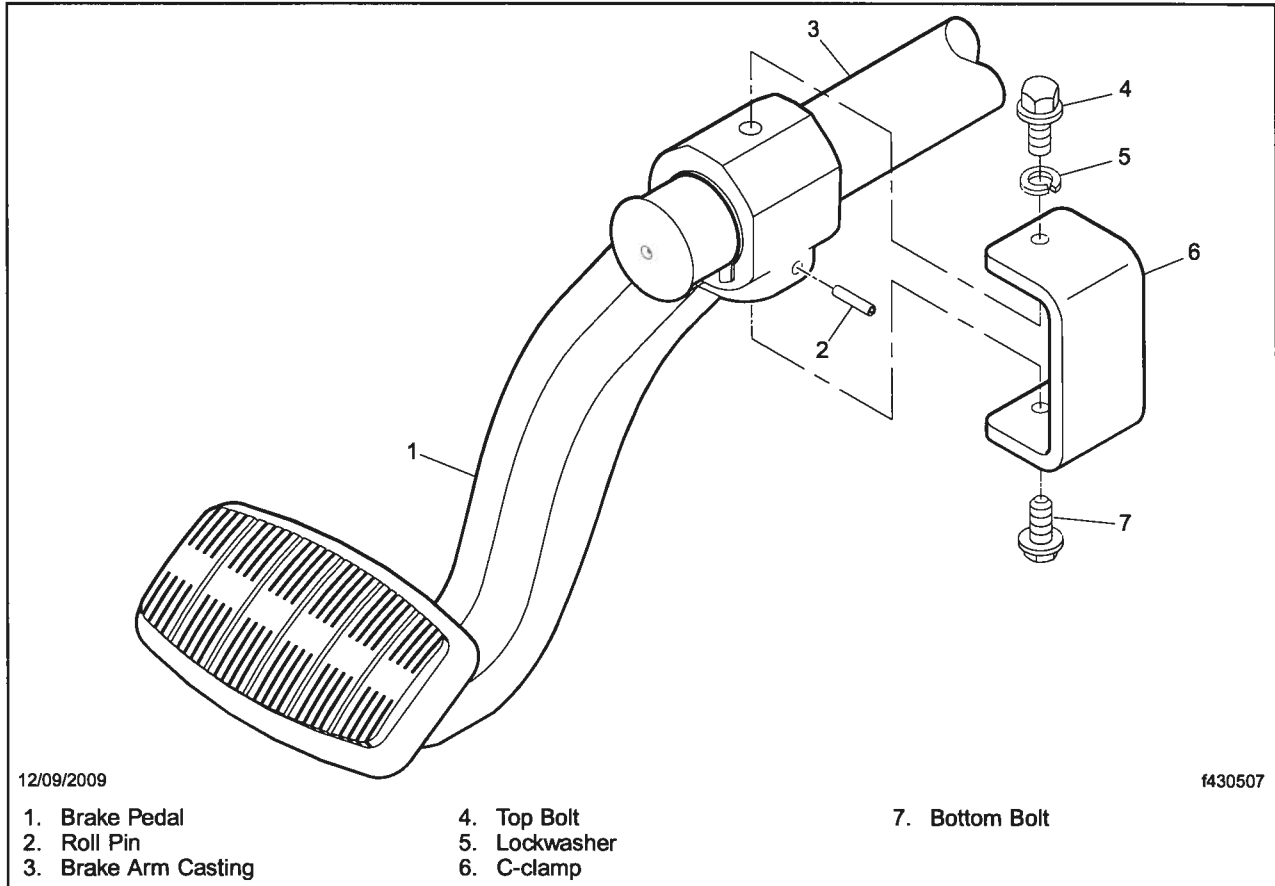

Fig. 1, Adjustable Brake Pedal Assembly
3. Check to see if a C-clamp or roll pin is installed on the adjustable brake pedal. See **Fig. 1**.
1. With the C-clamp in your hand, install the C-clamp assembly in the guide hole at the top of the brake arm casting. Make certain the C-clamp is against the casting. The bolt with the lockwasher should be installed at the top, as shown in **Fig. 1**, Items 4 and 5. Then tighten the bottom bolt 40±5 lbf-in (452±5 N-cm).